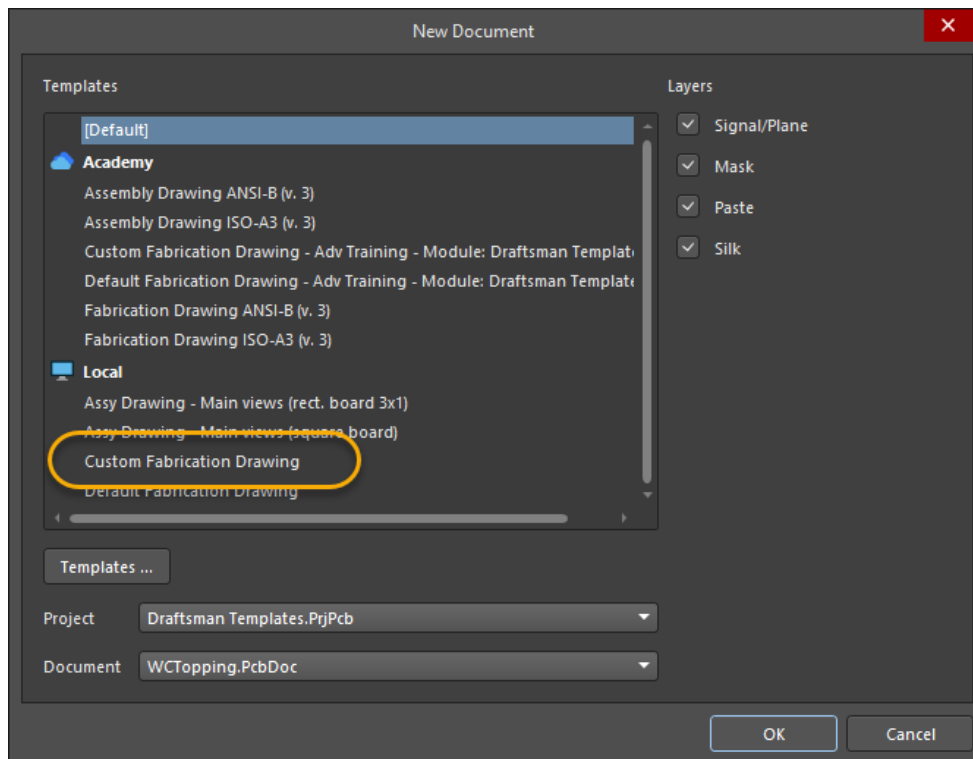

Figure 9. New Draftsman Document using the Custom Fabrication Template
31. From the *New Document* window, select the Custom Fabrication Drawing template that we just created, as shown in Figure 9. Note, that if you're not connected to an Altium 365 workspace or your company workspace, the templates available to you will be different.